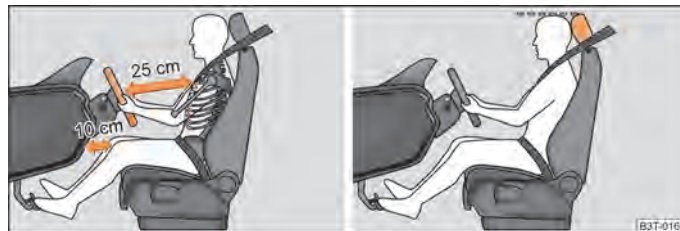

Fig. 138 The correct distance of the driver from the steering wheel and the gear lever/The correct head restraint adjustment for the driver
- Position the steering wheel so that there is a gap of at least 25 cm between the steering wheel and the chest, and the distance between the legs and the gear lever at the height of the knee airbag is at least 10 cm ⇒ **fig. 138** - left.
- Adjust the head restraint so that the top edge of the head restraint is at the same level as the upper part of your head ⇒ **fig. 138** - right.
- The driver must maintain a distance of at least 25 cm between the steering wheel, and a distance of at least 10 cm between the legs and the gear lever at the height of the knee airbag ⇒ fig. 138 - left. Not maintaining this minimum distance will mean that the airbag system will not be able to properly protect you - hazard!
- Adjust the head restraints so that the top edge of the head restraints are at the same level as the upper part of your head ⇒ fig. 138.
- Adjust the head restraint so that the top edge of the head restraint is at the same level as the upper part of your head ⇒ fig. 138 - right.